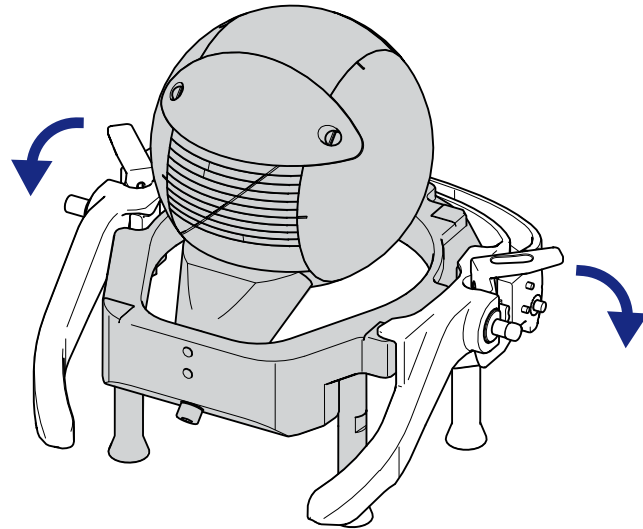

Figure 1.8 Lock the Vantage frame adapter to the Dosimetry phantom
- e Turn and fold down the left and right levers to lock the frame adapter, see Figure 1.8.